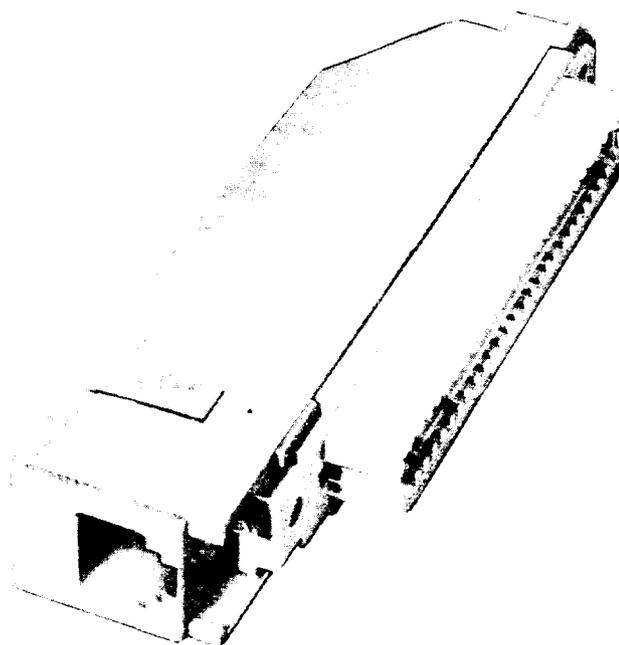

Fig. 13—153AM2, 153BM2, 153AM3, and 153BM3 Adapters
2.37 The 153AM1 (MD) and 153BM1 (MD) adapters are replaced by the 153AM3 and 153BM3, respectively.
G. 153AM2 and 153BM2 Adapters (Fig. 13)
H. 153AM3 and 153BM3 Adapters (Fig. 13)